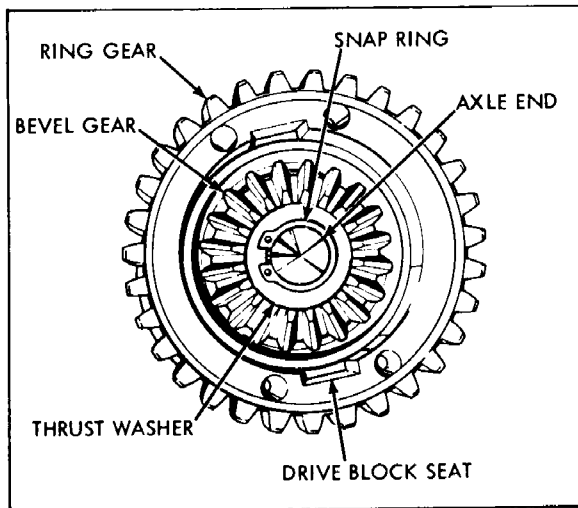

Figure 3-5
3. Remove the snap ring and the thrust washer, if used. Separate the bevel gear and differential carrier from the axle. (Figure 3-5)